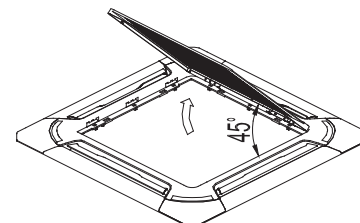

Fig.23
2. Draw the grill up to an angle of about 45°, and remove it. (Fig.23)